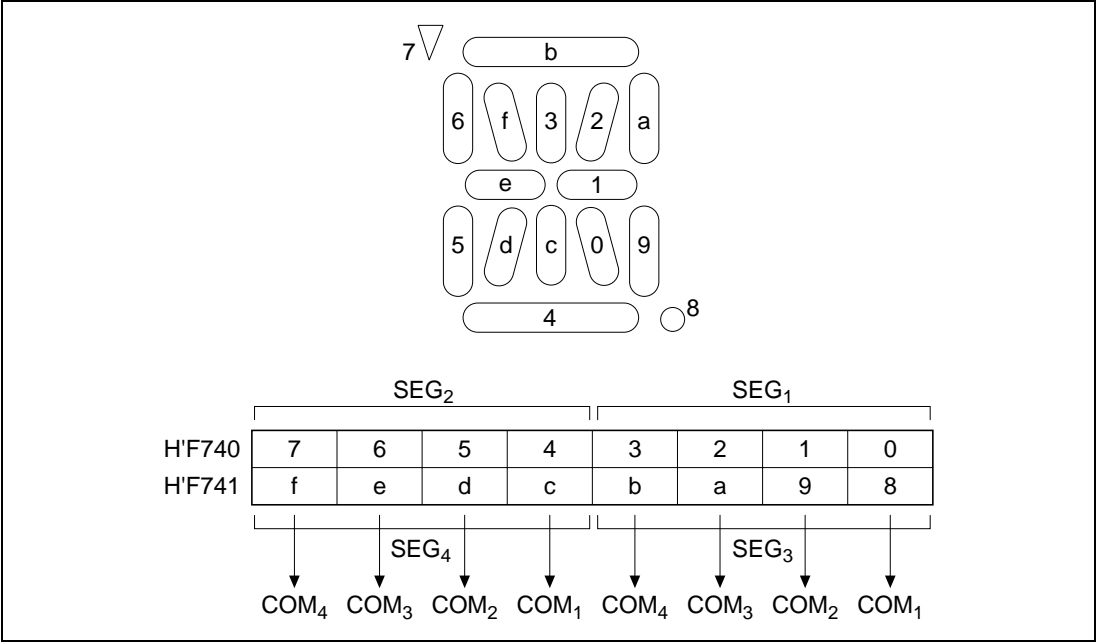

Figure 6 Relation between LCD Lit/Unlit States and Corresponding LCD RAM Settings
7. Figure 6 shows the relation between the display of the eighth column from the right in the 16-line 8-character segment LCD and the LCD RAM corresponding to SEG₁ through SEG₄. As indicated in figure 6, when the LCD RAM bits corresponding to 0 through f are set to 1, the LCD regions are lit; when they are cleared to 0, the LCD regions are unlit.